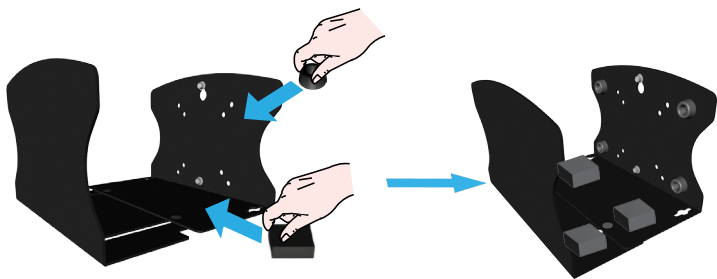

Figure 12
2. Remove the protective backing of the **Rubber Self-Adhesive Spacers** (x 4). Carefully place the **Rubber Self-Adhesive Spacers** on the vertical surface of the **Wall Mounting Bracket**. Figure 12.
3. Remove the protective backing of the **Rubber Self-Adhesive Pads** (x 4). Carefully place the **Rubber Self-Adhesive Pads** on the horizontal surface of the **Sliding Bracket** and the **Wall Mounting Bracket**. Figure 12.